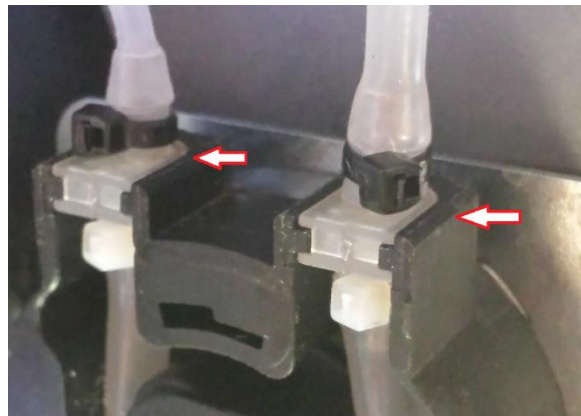

Figure 12
7. Starting on the left side of the wash pump, insert the grooves of the collar on the new tubing into the slot on the wash pump. Slowly work the tubing into the wash pump in a counter-clockwise direction. Once the tubing is in place, insert the grooves of the collar on the new tubing into the slot on the right side of the wash pump. Figure 12 shows correct placement for tubing.